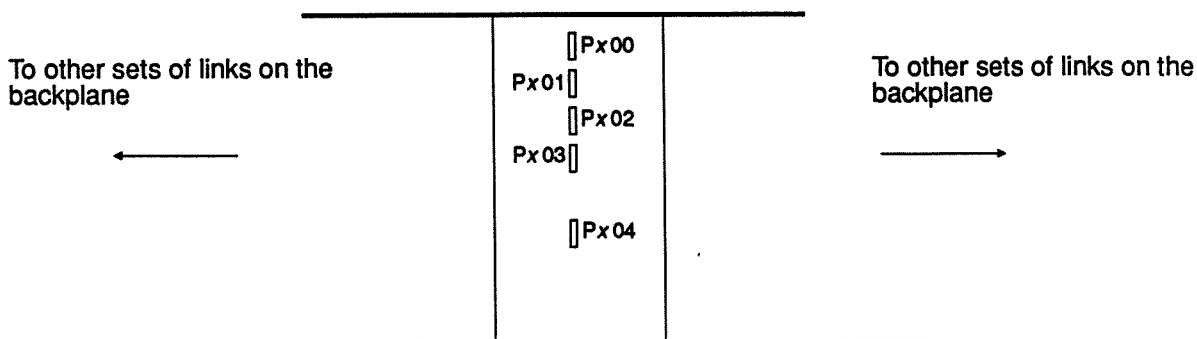

Figure 2.7: Daisy-chain links on the  $x^{\text{th}}$  position of the 3/160 VMEbus backplane
- On the VME backplane, remove all five links Px 00 to Px 04 from the backplane, where x is the slot number of the slot in which you have just installed the PME SCSI-1/100 board (see figure 2.7 below)